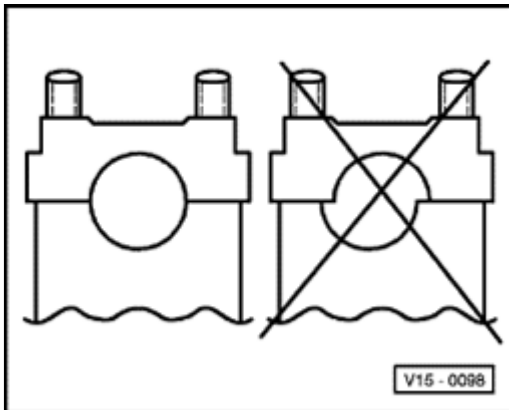

Fig. 127: Installed position of camshaft bearing caps
- Installation position. See **Fig. 127** .